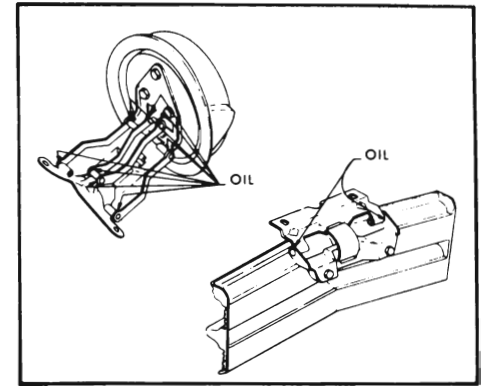

Figure 1-25—Gas Tank Filler Door
- b. Gas Tank Filler Door. See Figure 1-25.